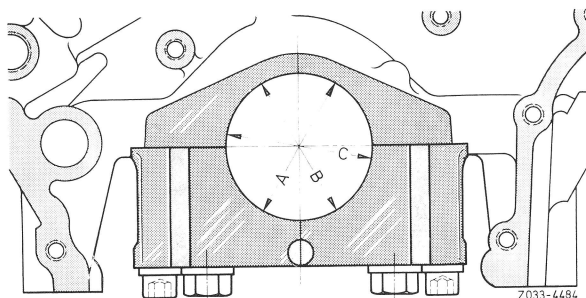

Fig. 1
- 2 Measure main bearing and connecting rod bearing basic bores in three directions with internal measuring instrument (Fig. 1). Move offset main bearing caps into center position by applying light blows with a plastic hammer. The bearing cap is centrally located when all the measuring results are in agreement.
If a basic bore shows an oversize of 0–10 μm , starting from the lowest tolerance limit, a bearing marked blue must be installed. If the oversize is 11–20 μm , a bearing marked red is installed (starting each time from the largest diameter of the three values measured (Fig. 1)).